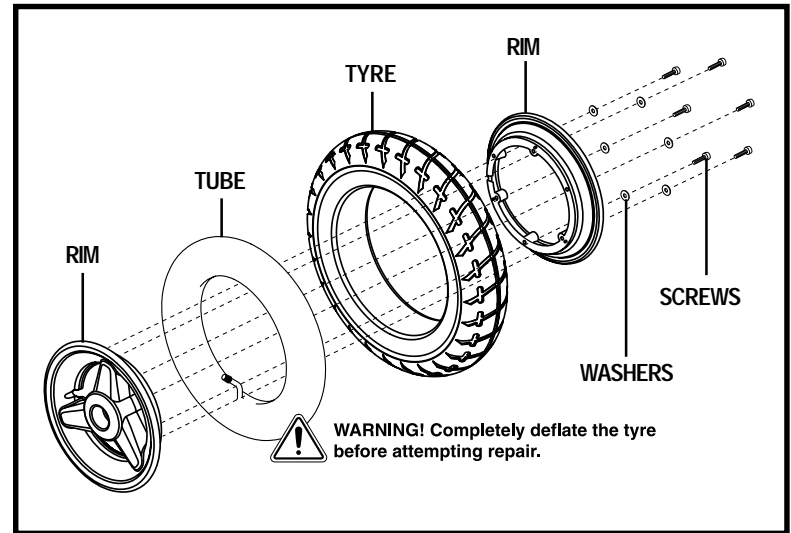

Figure 26a. Tyre Replacement
7. Remove the screws that fasten the two rim halves together. See figure 26a.